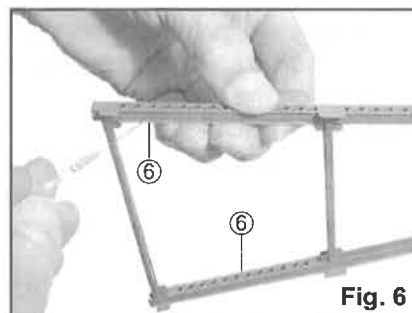

Fig. 6
To assemble, pick up the bent assembly and hold part (6) against the bent edges, with its ribs outside each bent half. Apply cement along one edge at a time. See Fig. 6.
Assemble as in step 4. See Fig. 6.
12. Cement a second **tower strut lattice part (19)** to the top of the tower strut assembly.
To assemble, remove the straight pins, pick up the tower strut assembly, and hold part (19) against the assembly (similar to fig. 6) with its rivet detail and its ribs to the outside. Apply cement along the ribs while applying pressure.